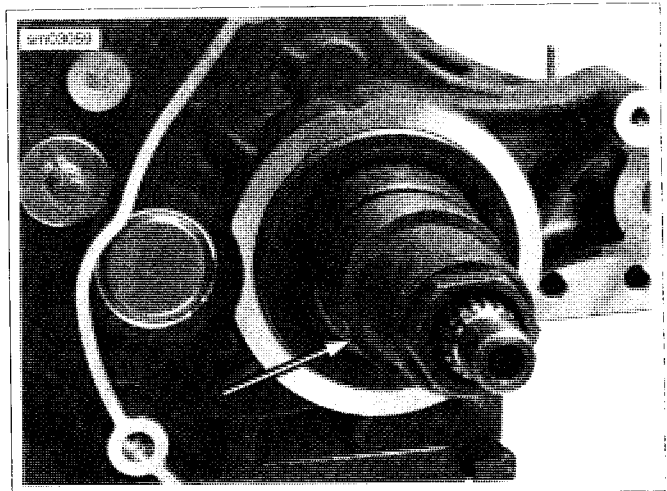

Figure 6-46. Install Adapter
4. See Figure 6-46. Thread ADAPTER (Part No. HD-47856-3) onto end of main drive gear until it contacts main drive gear.